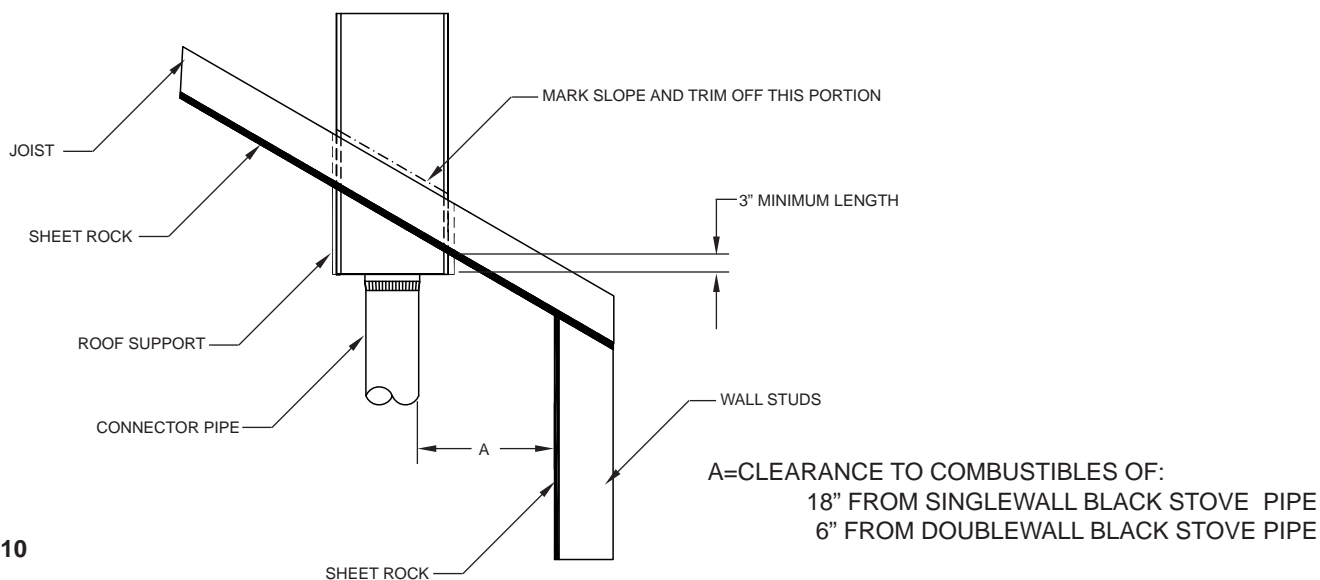

FIG. 10
3. Insert TGRS into framed opening so that the TGRS extends a MINIMUM of three (3) inches below the finished ceiling on the lower side of the installation.
4. With TGRS properly located, mark roof slope on the roof support (See **FIG. 10**.), Remove from opening and trim off excess metal.
5. Reinsert TGRS and secure in position using a minimum 1" roofing nail, four (4) each per side.